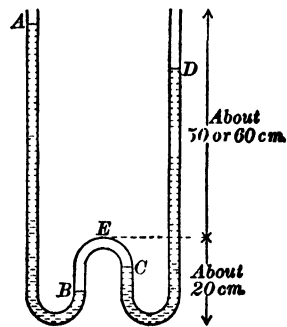

FIG 11
(b) *By balancing columns* Bend a piece of glass tubing from 5 to 10 mm in diameter and about 2 m long, as shown in Fig 11
**Questions** a If, in the apparatus of Fig 11, mercury were used in the left-hand arm in place of gasoline, how would the vertical distance  $\overline{DC}$  compare with the vertical distance  $\overline{AB}$  ?
(b) *By balancing columns* Pour mercury to a depth of about 10 cm into the left arm of the apparatus shown in Fig 11